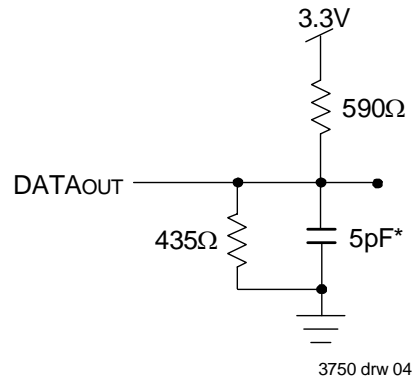

Figure 2. Output Test Load
- Transition is measured 0mV from Low or High-impedance voltage with the Output Test Load (Figure 2). This parameter is guaranteed by device characterization, but is not production tested.
1. Transition is measured 0mV from Low or High-impedance voltage with the Output Test Load (Figure 2).